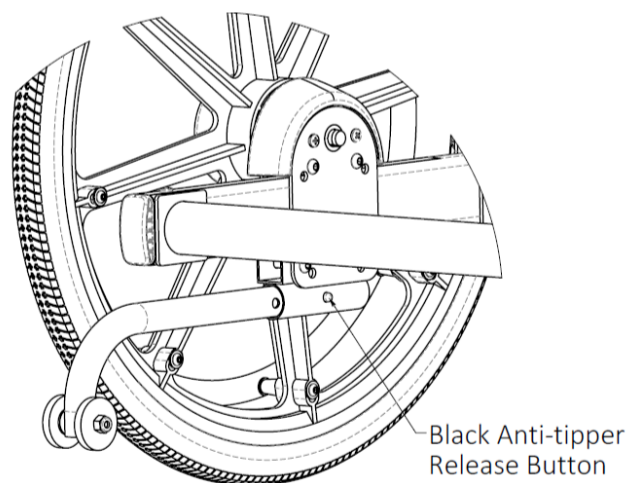

Figure 14.32: *Installing anti-tip tubes*
1. Press and hold the release button on the anti-tipper tube. (See Figure 14.32)